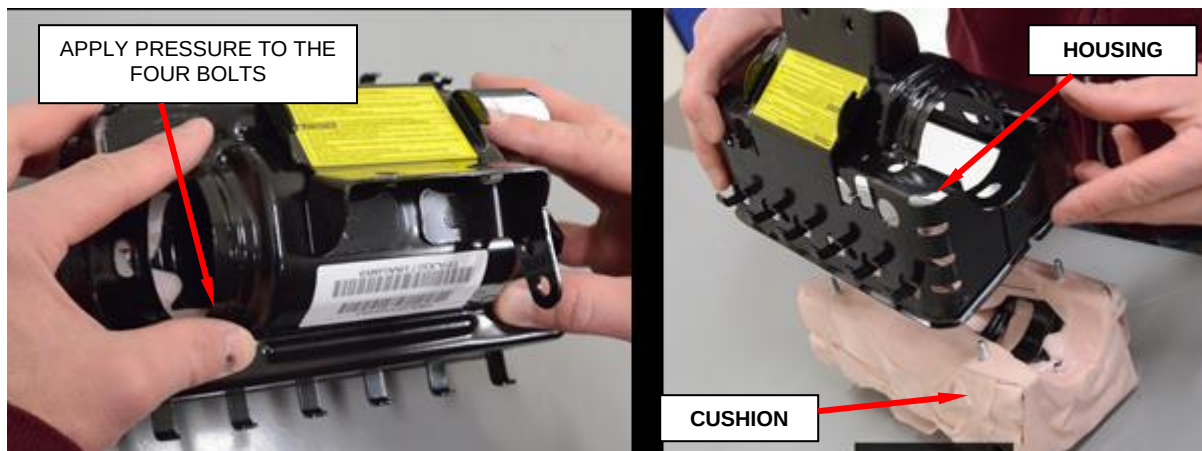

Figure 123 – Remove Airbag Cushion from Housing
h. Remove airbag cushion from housing by applying pressure to the bolts, set cushion aside (Figure 123).